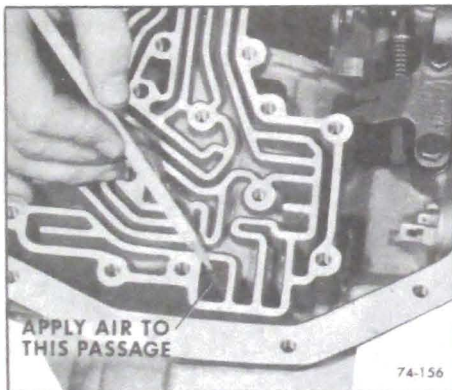

Figure 74-156
6. Place transmission in a horizontal position and remove reverse clutch piston with compressed air. As air is applied to the rear surface of the piston, it will pop out far enough so it can be removed. Insert air nozzle into case as shown. See Figure 74-156.